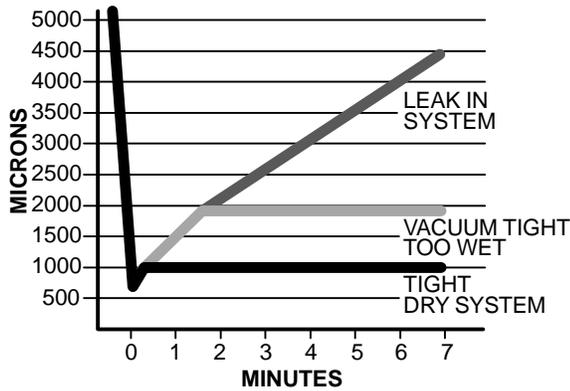

Fig. 25 – Deep Vacuum Graph
7. Evacuate using either the deep vacuum or the triple evacuation method (see Fig. 25 and 26).
The deep vacuum method requires a vacuum pump capable of pulling a vacuum of 500 microns and a vacuum gauge capable of accurately measuring this vacuum depth. The deep vacuum method is the most positive way of assuring a system is free of air and liquid water (see Fig. 25).